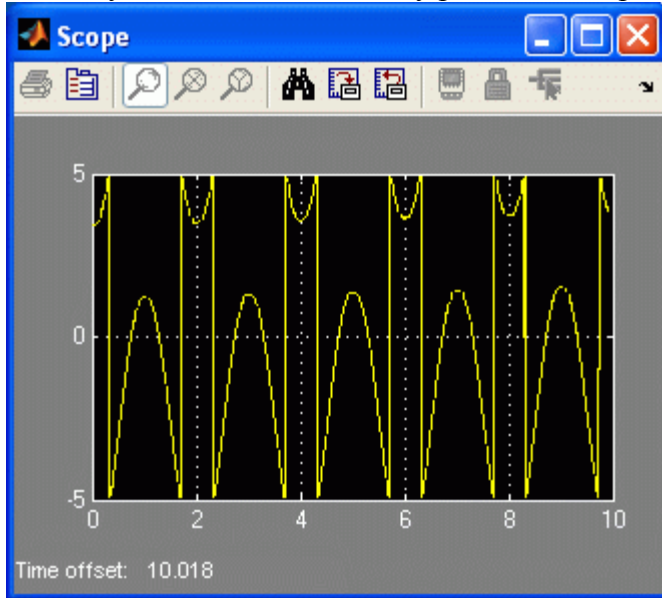

Figure 5: Potentiometer reading when encountering its discontinuity.
12. Vary the sine wave frequency between 0.1 and 2 Hz and the Slider Gain value between 0 and 2. You may notice the discontinuity present in the potentiometer, as illustrated in Figure 5.